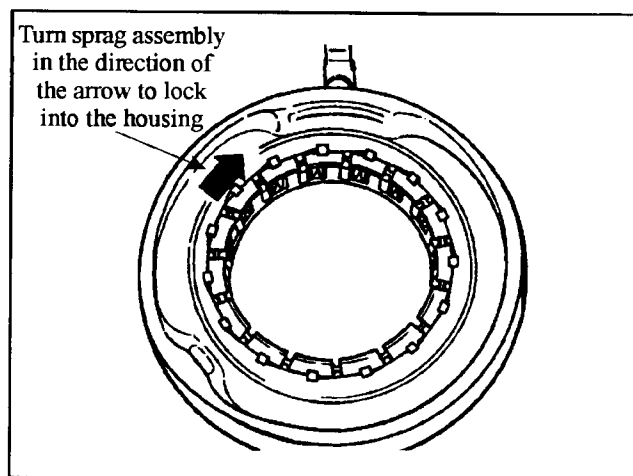

Figure 82
4. When assembling the sprag grasp the plastic retainer with both thumbs and turn in the direction of the arrow shown in Figure 82. This will lock the sprag in the housing for proper installation.